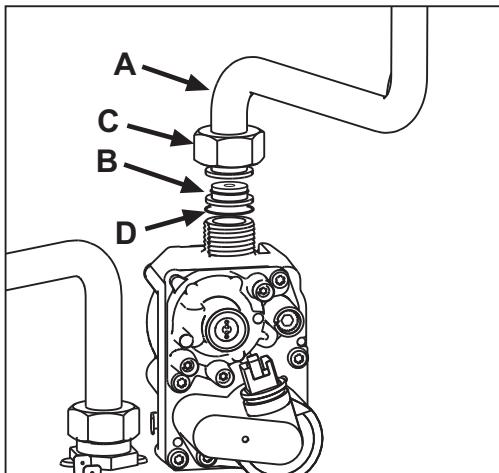

fig. 22
3. Unscrew the ring C and remove the gas pipe A from the gas valve (see fig. 22).
4. Replace the nozzle B inserted in the gas pipe with that contained in the conversion kit, interposing seal D (see fig. 22).